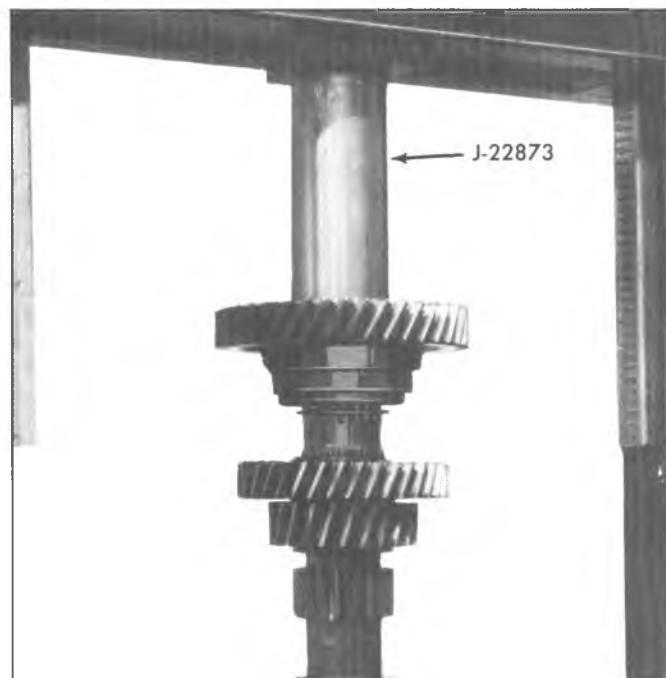

Fig. 22Q -Installing Clutch Countergear
4. Position clutch countergear and spacer on shaft and press countergear onto shaft against snap ring using Tool J-22873, (fig. 22Q).